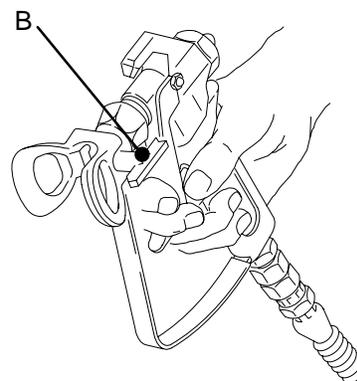

Fig. 6
The tip guard alerts you to the risk and helps prevent placing any part of the body close to the spray tip. The tip guard also adjusts the vertical or horizontal spray pattern. See page 11. The tip guard holds a reversing spray tip. The tip is in the spraying position when the tip handle (B) points forward. See Fig. 6.
1. Release the gun trigger. Engage the gun safety latch. Rotate the RAC IV tip handle 180°. See Fig. 6.
3. Engage the gun safety latch. Rotate the tip handle (B) to the spraying position.